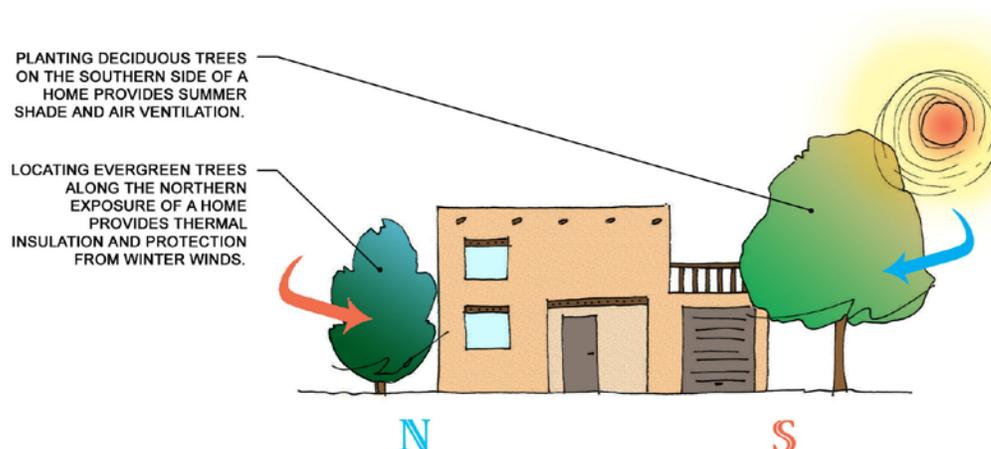

Figure 15. Climate Mitigation through Landscape Plantings
- Buffer garden areas from the effects of drying winds by planting rows of tall shrubs or trees. Figure 15 illustrates several of these principles.